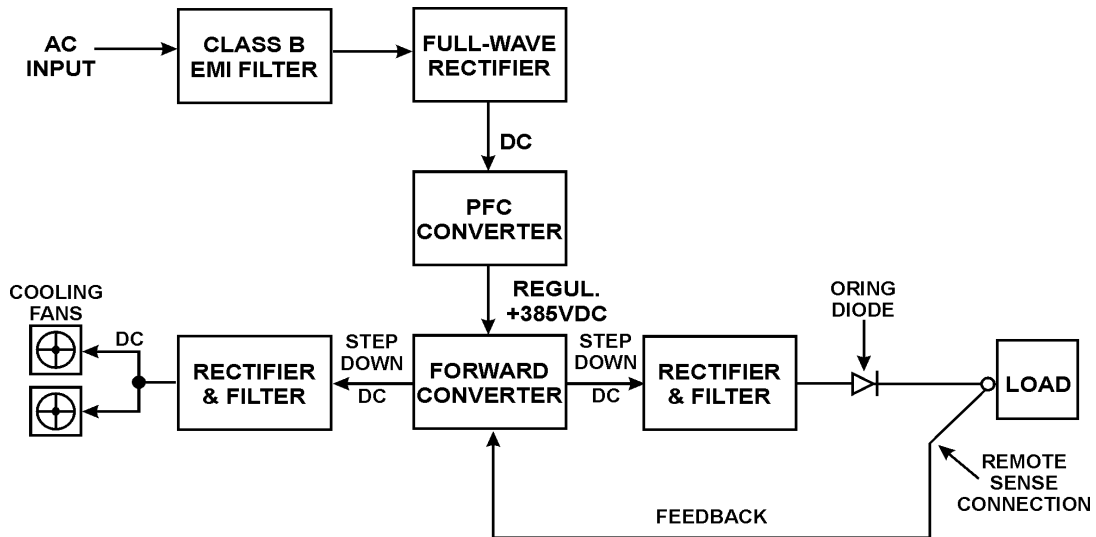

Figure 2. Vanguard Rectifier Block Diagram.
- 7.1 **Block Diagram.** A diagram of a Vanguard Rectifier Module is shown in Figure 2. The AC input first goes through a Class B EMI filter then to a full-wave rectifier and high-frequency (50kHz) power factor correction (PFC) converter. The output of the PFC converter is a regulated DC voltage at approximately +385V. This voltage is converted down to either 48VDC or 24VDC nominal, depending on the model. This is done by a forward converter operating at 80 kHz. The output of this converter goes through a rectifier, filter and ORing diode to the module output. Feedback from the